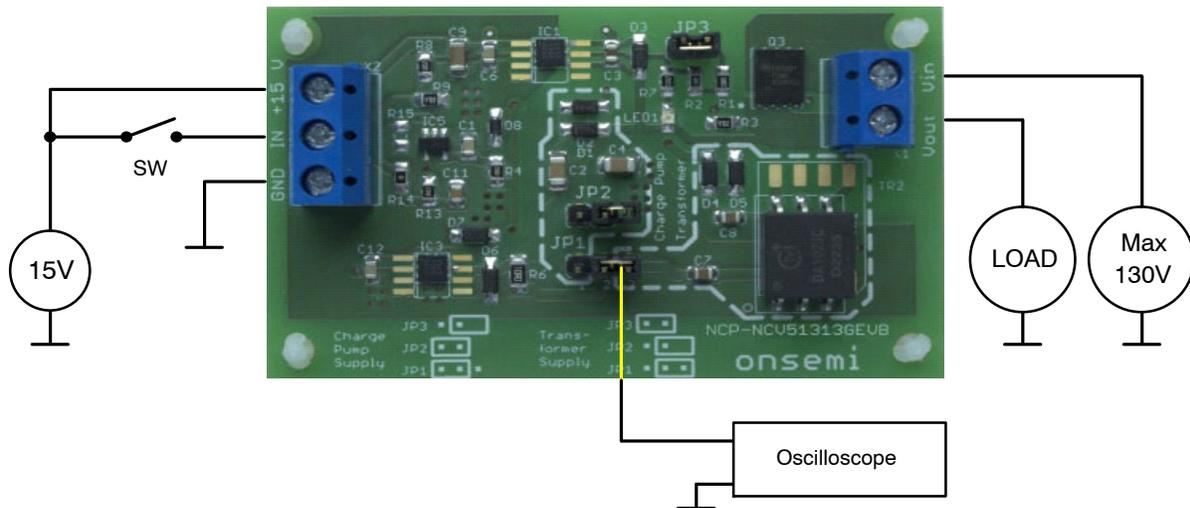

Figure 3. EVB Connection for Testing (Transformer Supply Setup)
- Set a power supply to 15 V, connect negative terminal to X2/GND and positive terminal to X2/+15 V. See Figure 3.